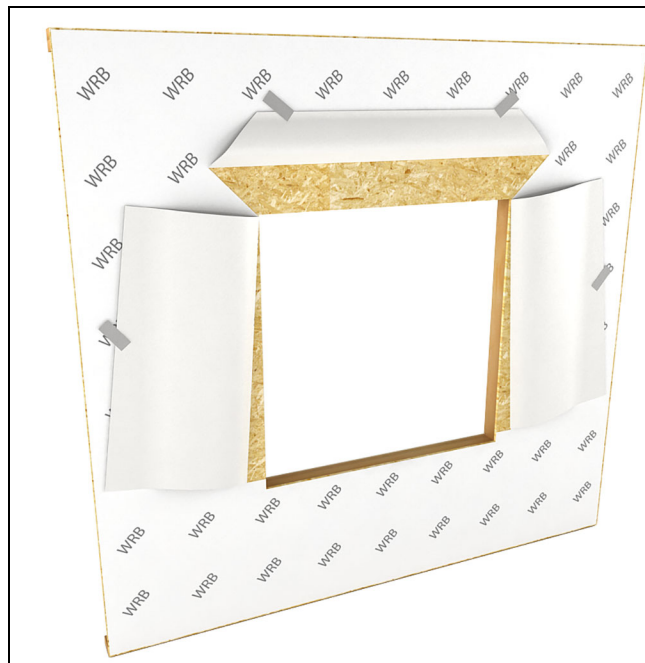

Figure 3
3. Flip the top up and side flaps away and tack temporarily. See Figure 3.